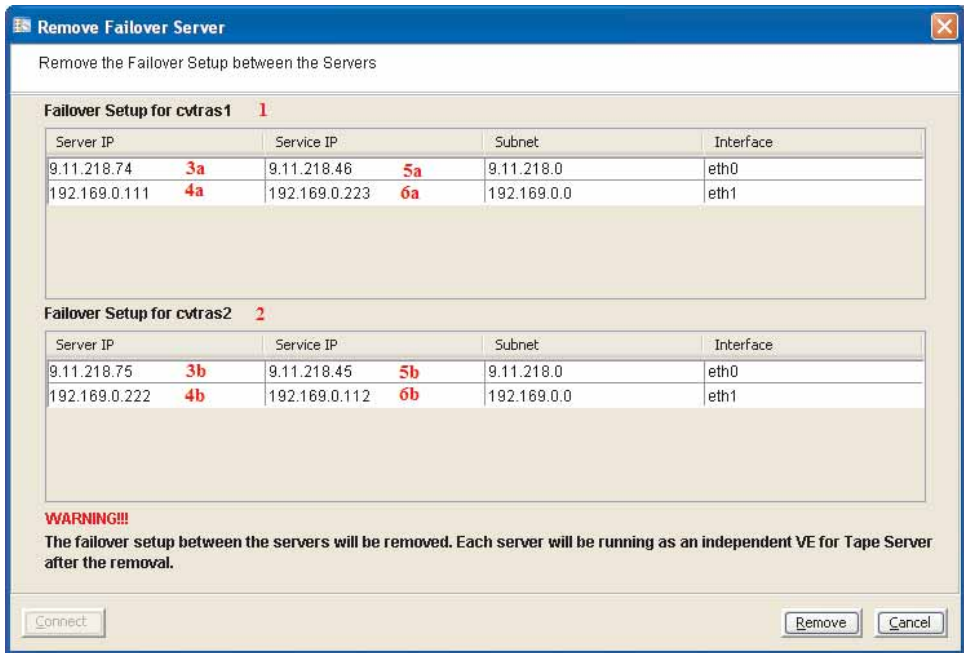

Figure 15. Removing Failover Server
2. At the remove failover server screen, perform the following substeps (see Figure 15 on page 28):
- a. __ Record the lower server's hostname (**1** in Figure 15 on page 28) in row **1** of Table 1 on page 28.
- b. __ Record the upper server's hostname (**2** in Figure 15 on page 28) in row **1** of Table 1 on page 28.
- c. __ Record the lower server's Adapter 1 (eth0) network interface IP address (**3a** in Figure 15 on page 28) in row **2** of Table 1 on page 28.
- d. __ Record the upper server's Adapter 1 (eth0) network interface IP address (**3b** in Figure 15 on page 28) in row **2** of Table 1 on page 28.
- e. __ Record the lower server's Adapter 2 (eth1) network interface IP address (**4a** in Figure 15 on page 28) in row **3** of Table 1 on page 28.
- f. __ Record the upper server's Adapter 2 (eth1) network interface IP address (**4b** in Figure 15 on page 28) in row **3** of Table 1 on page 28.
- g. __ Record the lower server's Adapter 1 (eth0) service interface IP address (**5a** in Figure 15 on page 28) in row **4** of Table 1 on page 28.
- h. __ Record the upper server's Adapter 1 (eth0) service interface IP address (**5b** in Figure 15 on page 28) in row **4** of Table 1 on page 28.
- i. __ Record the lower server's Adapter 2 (eth1) service interface IP address (**6a** in Figure 15 on page 28) in row **5** of Table 1 on page 28.
- j. __ Record the upper server's Adapter 2 (eth1) service interface IP address (**6b** in Figure 15 on page 28) in row **5** of Table 1 on page 28.
- Once Table 1 has been filled out, click **Remove**. Refer to Figure 15.